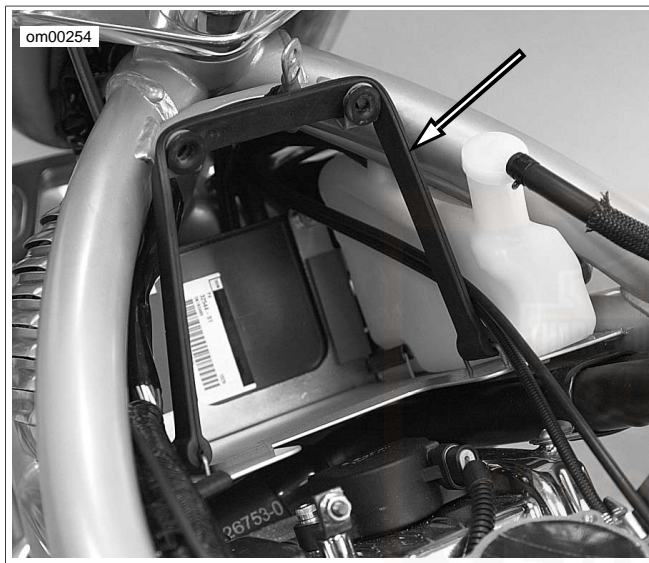

Figure 58. Hold-down Strap Over Grommet Bracket
7. See Figure 58. Stretch rubber hold-down strap over the airbox cover grommet bracket and remove battery.
1. See Figure 58. Slide the fully charged battery under hold-down strap, terminal side up, negative (-) battery terminal toward the left side of the motorcycle.